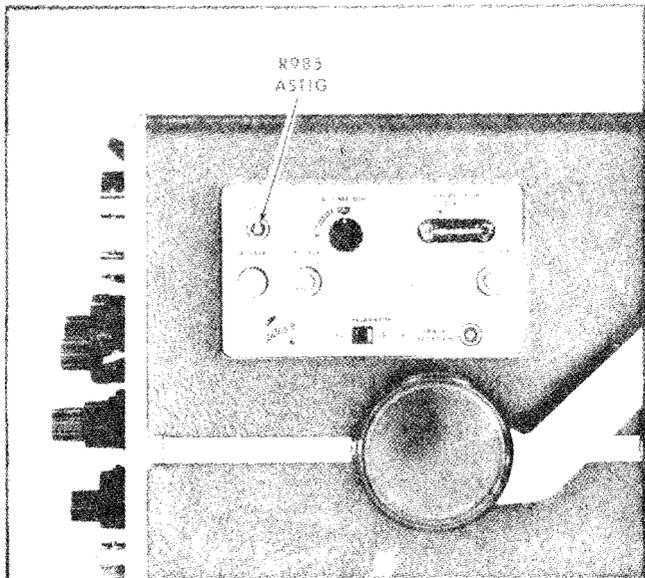

Fig. 6-11. Location of ASTIG adjustment (side panel)
- g. ADJUST-FOCUS control and ASTIG adjustment, F985 (see Fig. 6-11), for best definition of the markers.